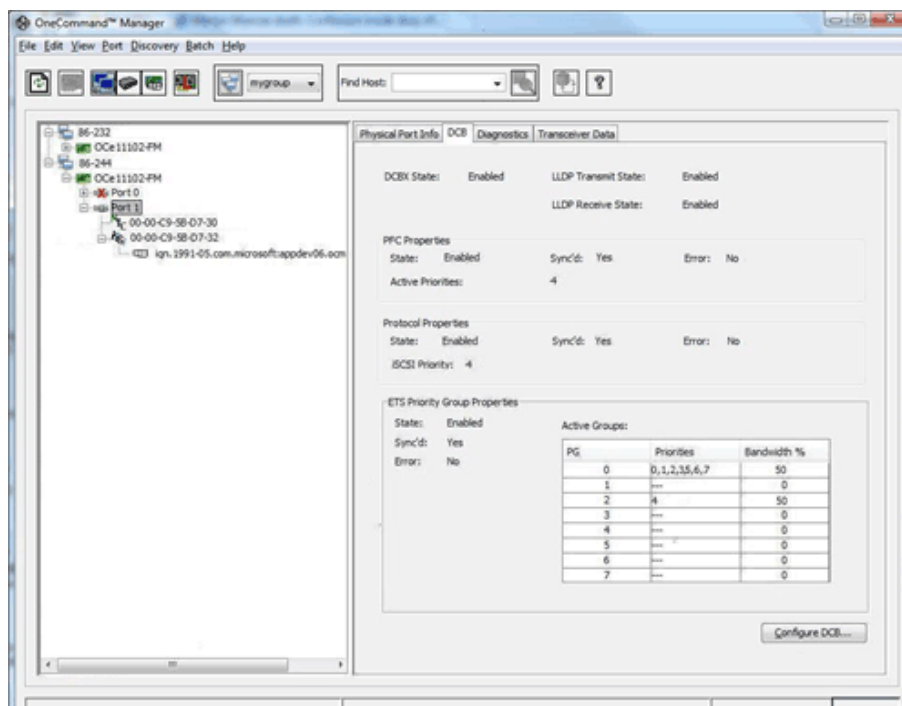

Figure 10-3 DCB Tab for NIC + iSCSI Adapter Ports (NIC + iSCSI adapter port selected)
The DCB tab (Figure 10-3 on page 211) displays parameters for NIC + iSCSI adapter ports.
2. Select the **DCB** tab (Figure 10-3 on page 211).